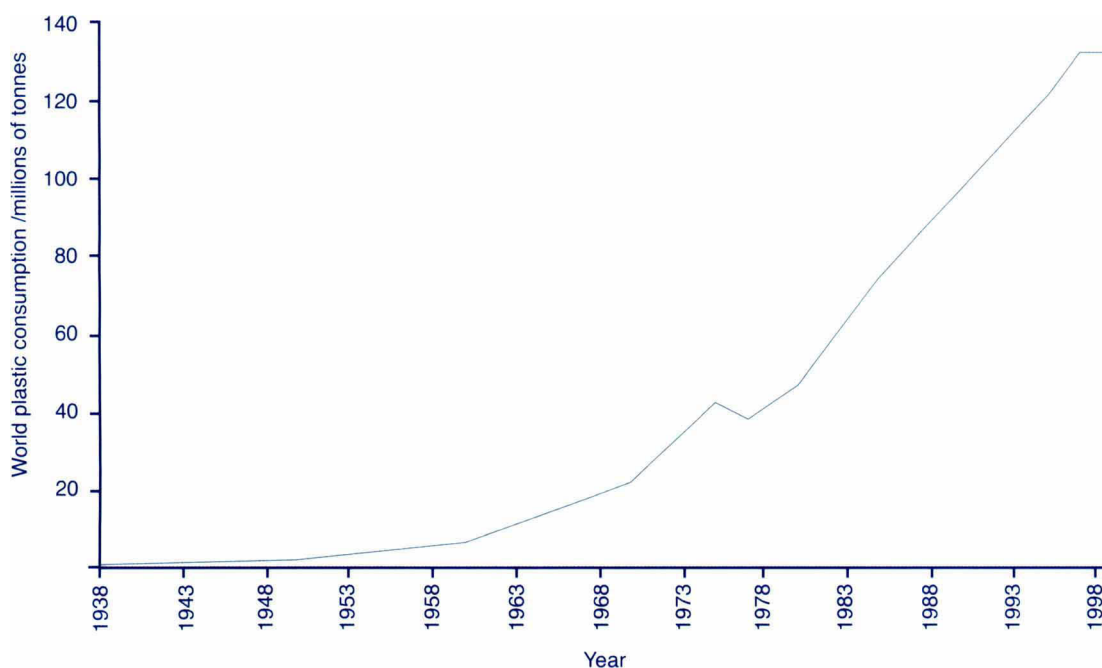

Figure 1 World plastic consumption during the 20th century
The use of plastic materials has increased enormously in the last 50 years (Figure 1).
- Q2.** Look at the graph in Figure 1. There is a significant kink in plastics production.